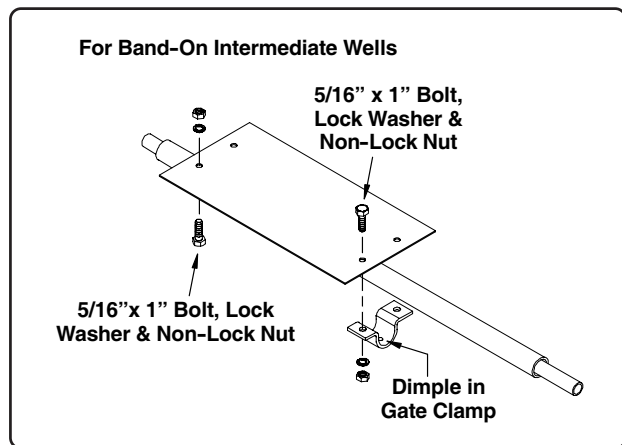

Fig. 8
Fasten the gate clamp to the control gate and control pipe. Secure using two (2) 5/16" x 1" long bolts, lock washers and nuts (See Fig. 8).